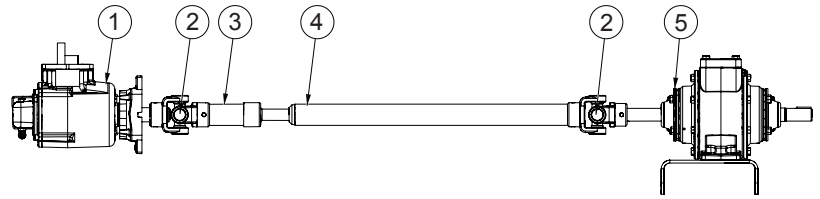

Fig. 1. PTO, Drive line, Pump
1. Read and follow pump (Fig. 1 - 5) and PTO (Fig. 1 - 1) maintenance instructions as provided in the Blackmer manual beginning at page 18 and Muncie PTO manual section 2.4.
1. Inspect u-joints (Fig. 1 - 2) and spline shaft (Fig. 1 - 4) for wear weekly.
2. Grease u-joints and slip yoke (Fig. 1 - 3) weekly.